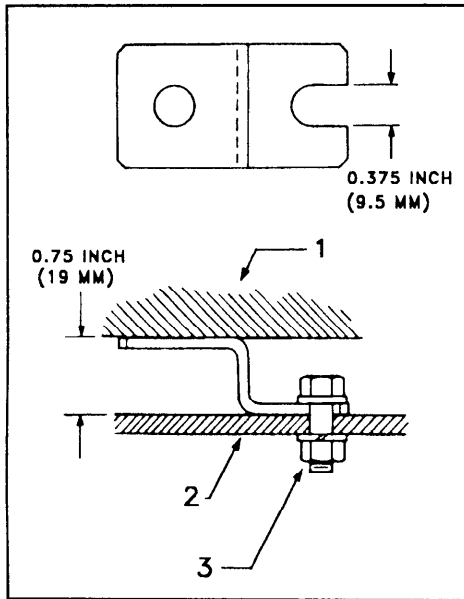

Figure 3.8 — 1 Applicator, 2 Mounting surface, 3 Mounting bolt
1. Mount the hot melt applicator securely to the parent machine or in some other location so that the controls and panels are accessible and required clearances (see Figure 3.2) are provided. Four mounting feet with bolt holes are provided in the base of the applicator for mounting (see Figure 3.8 for closeup of one of the mounting feet). Nordson recommends the use of 5/16 inch (7.9 mm) mounting bolts.